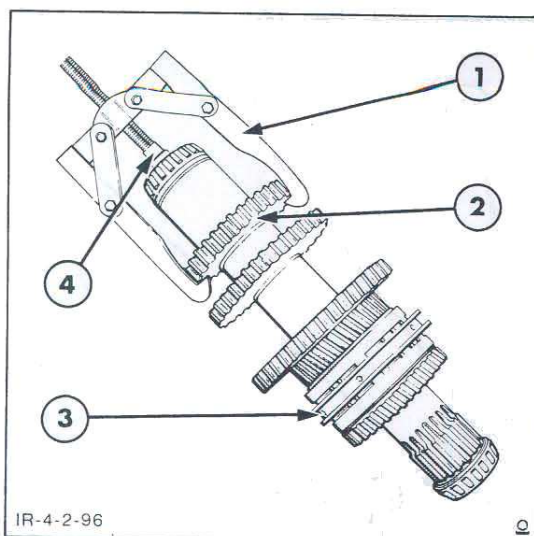

Figure 97
1. Attach a puller, Tool No. 1003 or 9516 with shaft protector, Tool No. 625A or 9212 to the gear cluster as shown in Figure 97 and remove the front bearing, thrust bearing and thrust washer from the shaft.